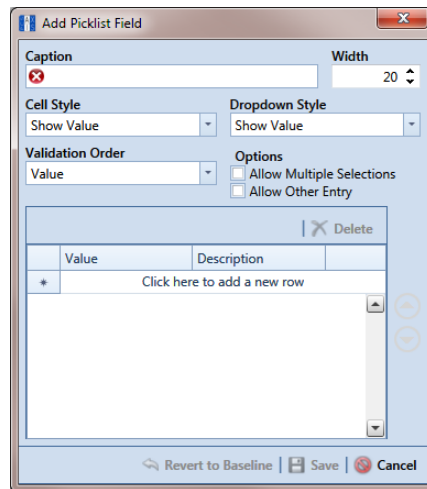

Figure 3-50. Add Picklist Field
- 6 When the dialog box *Add Picklist Field* opens, set properties for the parent picklist in the following manner (Figure 3-50):